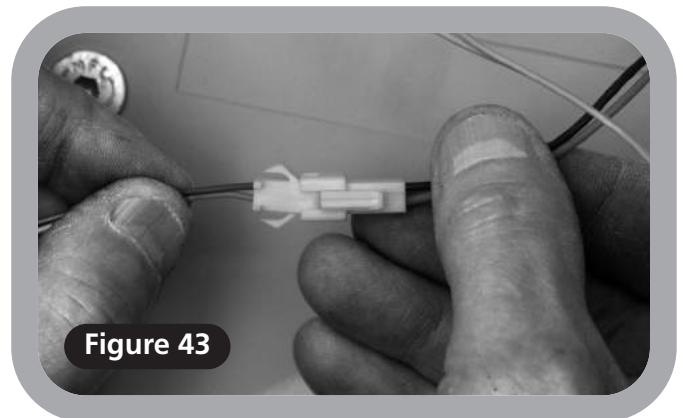

Figure 43
- 2 Make the upper seat wiring connections as follows (**Figure 43**);